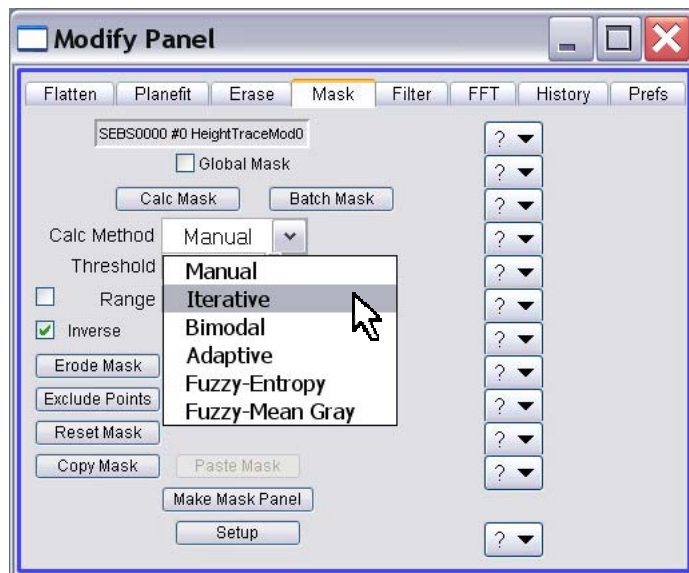

Figure 12.2.3.1: Mask tab of the Modify Panel
▪ Depending on the data features in the flattened data, there may be flattening artifacts (streaks) around the surface features/ asperities. To remove these features a plane fit and image Mask are most likely needed: *see Sections 12.2.2 & 12.2.3.* A sequence of removing such features (via flattening, plane fit & masking) can be seen in Figure 12.2.3.4.
Image masks save a great deal of time when omitting features from images that would otherwise create flattening artifacts (Figure 12.2.3.4A). Essentially, what the mask does is pick a defined plane / threshold in the Z axis and omit anything above, or below that threshold value.
✓Go to the *Mask* tab of the Modify Panel (Figure 12.2.3.1).
✓Click the 'Calc Mask' button; Igor will determine a Z range that is generally close to the Z range that is needed to help clean up the image (to human perception; Figure 12.2.3.2B). *Notice the 'Calc Method' has change to Manual- because a Z threshold value has been determined by the software.*
① Manually enter a threshold range, and re-calculate the mask; the author generally does this to get a precise (*yet subjective*) position of the mask.
② Click the 'Erode Mask' button- this will make the mask a little smaller (Figure 12.2.3.2C).
③ Click the 'Dilate Mask' button- this will make the mask a little larger. (Figure 12.2.3.2D).
Figure 12.2.3.2: Creating image masks: A) after zero order flatten (*i.e., no mask*); B) after Iterative mask result; C) Panel B) after Erode mask button click; D) Panel B) after Dilate Mask button click.
▪The image can be re-flattened at this point to clean up any flattening artifacts (dark horizontal streaks in Figure 12.2.3.2- See Figure 12.2.3.4 for an example incorporating flattening, plane-fitting and image masks.
✓Click the '**Exclude Points**' button in the *Flatten*, *Planefit*, or *Mask* tabs of the Modify Panel. This will bring up the Igor tool box (Figure 12.2.3.3). Lines, circles and the free hand tool can be used to make shapes on the image.
✓Click the '**Make Mask**' Button; this will create the mask (Figure 12.2.3.3C- red lines).
▪ For additional shapes, choose from the Igor tool box; (ctrl + T, upper left box Figure 12.2.3.3A).
✓With the shape drawn, it can be moved while its still blue- use arrow keys for this (Figure 12.2.3.3C).
✓Click the '**Make Mask**' Button (Figure 12.2.3.3D).
✓Make the whatever shape is needed- the Igor tool breaks them down into points- (Figure 12.2.3.3B)
▪ Figure 12.2.3.4 shows a typical sequence the author frequently uses to process most images-
1) Start with a zero order flatten and 1st order XY Planefit (Figure 12.2.3.4A).
2) Make an Iterative mask, fine tune with Manual mask setvar if not quite where it needs to be- quite often, the author places the mask on what is perceived to be the substrate (Figure 12.2.3.4B).
3) Reflatten (Figure 12.2.3.4C).
Figure 12.2.3.3: Using Exclude points masking feature: A) Igor tool box to make custom shape; B) free hand tool used to make shape on image; C) Addition ellipse shape made- blue shape indicated it can be moved on image with arrow keys; D) finished mask. *Data courtesy of Keith Jones, Asylum Research; sample courtesy J. Schlenoff, FSU Chemistry.*
Figure 12.2.3.4: Typical processing sequence of a Height image with surface features of raw data found in Figure 12.1.3: A) Zero order Flattening; B) First order XY PlaneFit; & Iterative Mask calculation; C) Subsequent zero Order Re-flattening; Mask is still present.